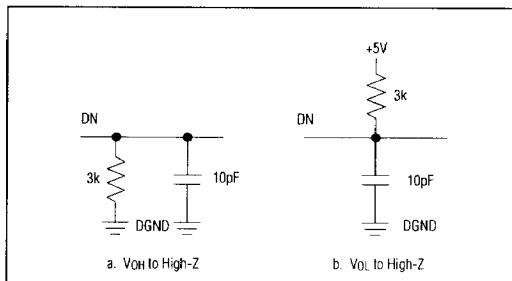

Figure 2. Load Circuits for Bus-Relinquish Time
**Note 10:** t17 is defined as the time required for the data lines to change 0.5V when the circuit load is as shown in Figure 2.